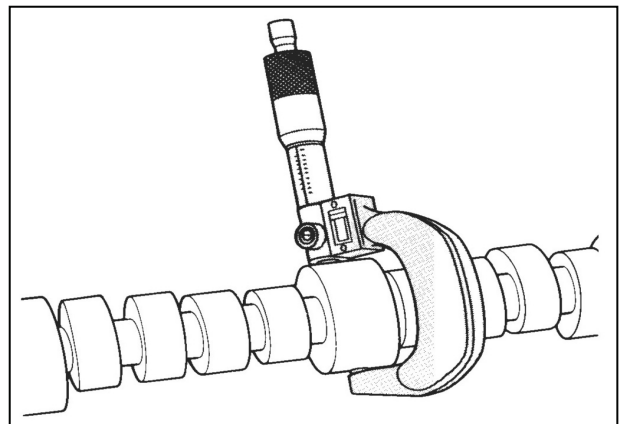

Figure 12-41 Measuring Camshaft Journals
Figures 12-41 and 12-42
- Camshaft journal diameters (figure 12-41). Refer to "Engine Specifications" for proper diameters.